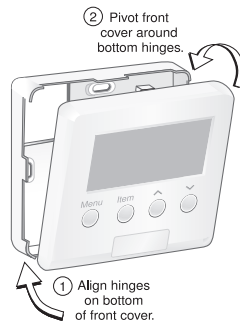

Figure 3:
- Pivot the front cover around the bottom hinges and push the top against the mounting base until it snaps firmly in place. (See **Figure 3**.)